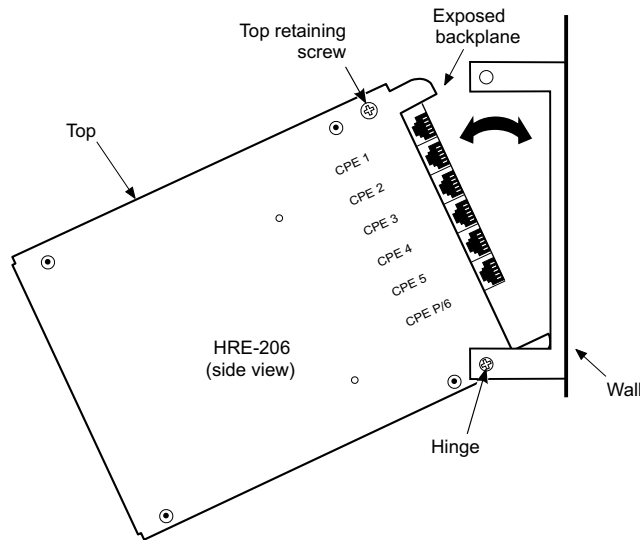

Figure 7. Wall Mounting and Bottom-Hinged View
When the main chassis is attached to the backplate, it can be rotated up or down to provide access to the backplane connector and other internal areas. See Figure 7 for hinging details.
- 6 Rotate the main chassis back into position and replace the retaining screws (Figure 7).